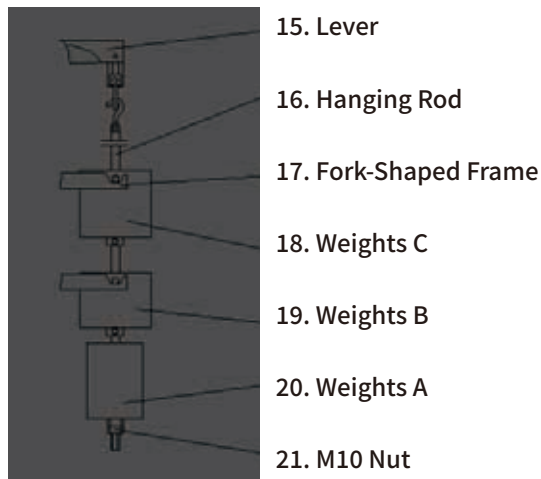

Fig 3-3
- Untie fastening rubber tape on the Connecting Rod (22) and draw out the foam block under the Protecting Gasket (25) and lever (15). Connecting Rod and Protecting Gasket can be found in Figure 5-21. Lever can be found in Figure 3-3.